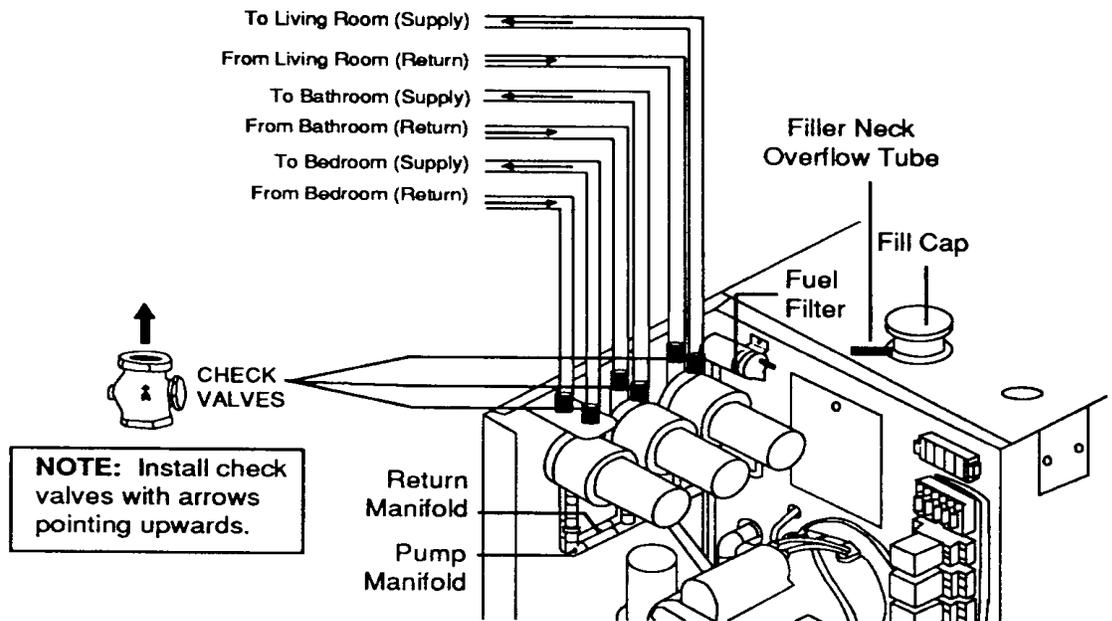

Figure 15
- G. Install and tighten check valves (located underneath the Aqua-Hot's access cover) to zone circulation pump's supply ports, see Figure 15.
- H. Connect and clamp heat exchanger supply line to the appropriate check valve supply port for each heating zone, see Figure 15.
- I. Connect and clamp heat exchanger return line to the appropriate return port on the return manifold for each heating zone, see Figure 15.